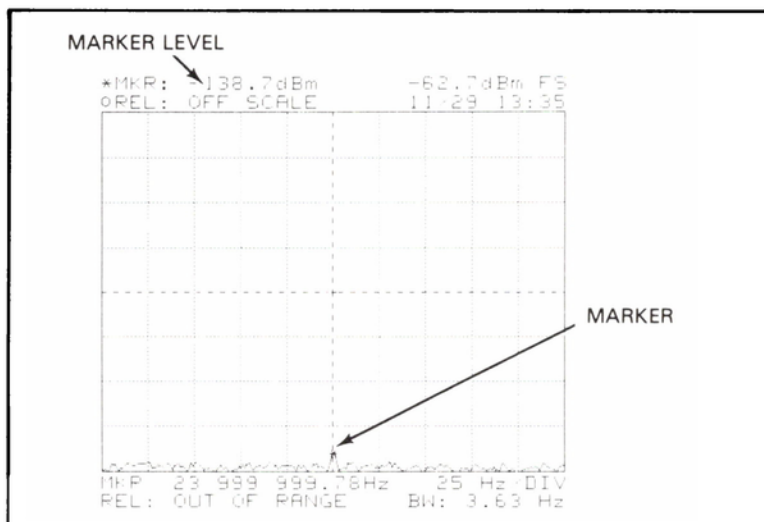

Figure 7-8. Noise Floor Test Sample Results
f. Place the -hp- 3582A marker on the highest level signal (See Figure 7-8). The marker should be \leq -130 dBm. Record the measured level on the Performance Test Record card.